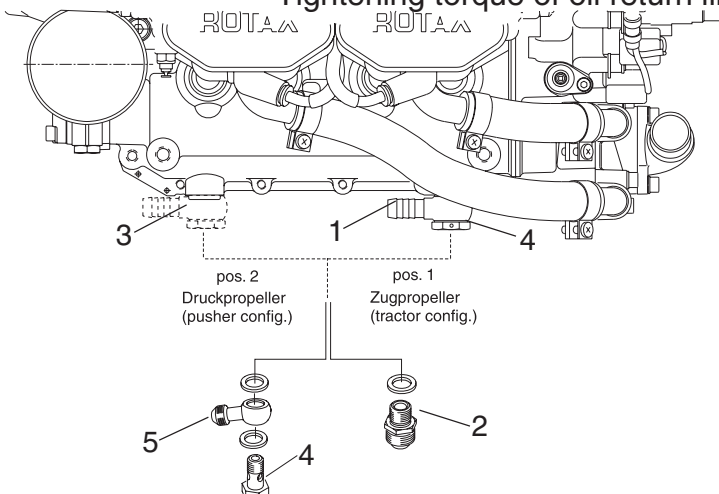

Fig. 47
Position **1** for tractor or position **2** for pusher configuration and connector-options (1), (2) and (5). See Fig. 47.